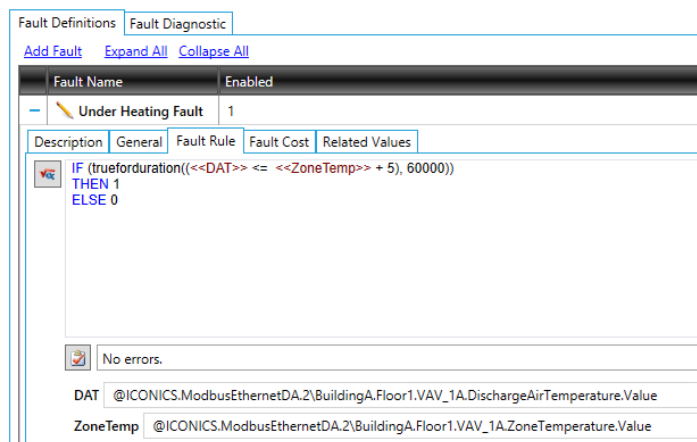

Figure 3 - Configured Fault Definitions tab
- Click **Apply** to save your changes. Your completed **Fault Definitions** tab may look similar to Figure 3.